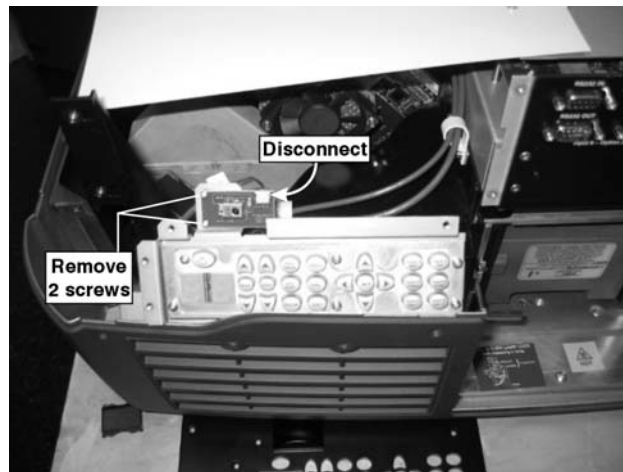

Figure 45. Remove the Rear IR Sensor
- Remove the rear, built-in keypad plate – eight (8) screws.
- Remove the two (2) screws securing the PCB in place. (Figure 45.)